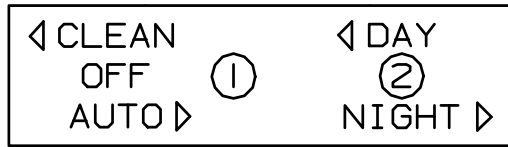

Figure 9-2 Selector (Toggle) Switch Positions
5. . When the cylinder has filled with sanitizing solution, reconnect the main power supply to the freezer. Turn the selector switch to the “CLEAN” position (figure 9-2). Allow the beater to run for 5 minutes. During this time period also check for leaks around the head, plunger and drain tube.